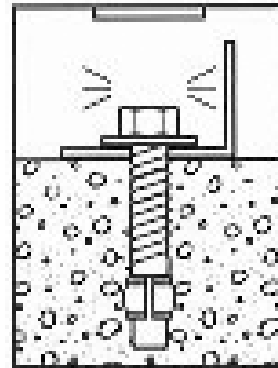

Figure 31
6. Using a hammer, carefully tap the anchor bolts into the concrete until the washer rests against the base plate. (See Figure 31)